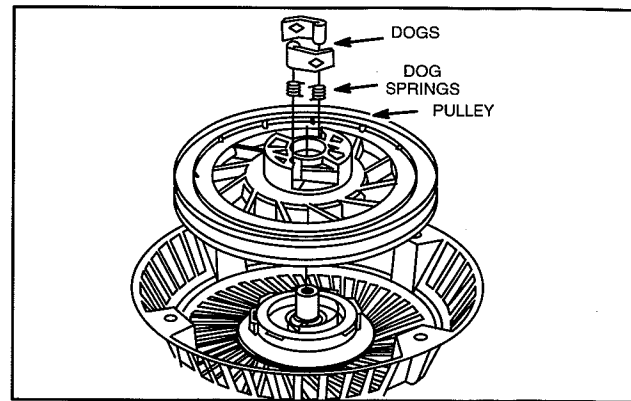

Fig. 17 – Remove Pulley – Early Style
5. Carefully lift out pulley, Fig. 17.